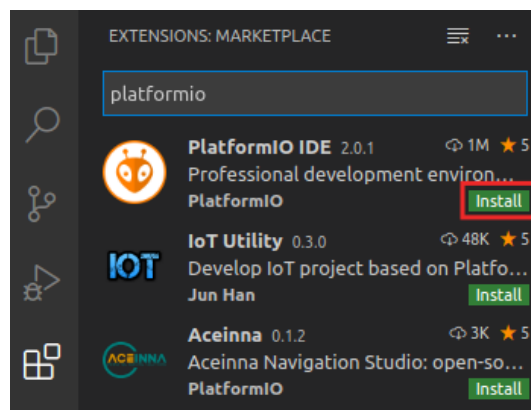

Figure 31. PlatformIO IDE Extension
- d. Type *PlatformIO* in the search box and install the PlatformIO *IDE* by clicking on the install button next to it (see Figure 31).